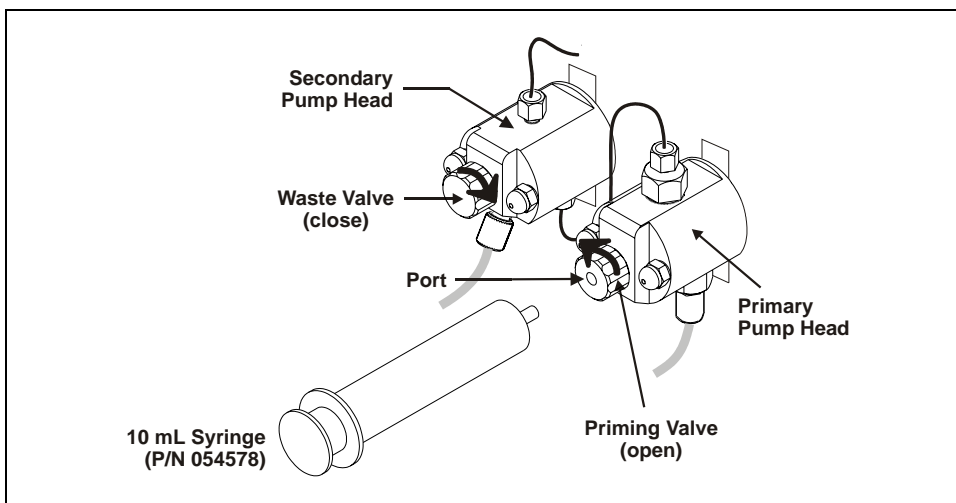

Figure B-35. Priming the Eluent Lines
2. Connect a 10 mL syringe (P/N 054578) to the port in the priming valve on the primary pump head (see Figure B-35).